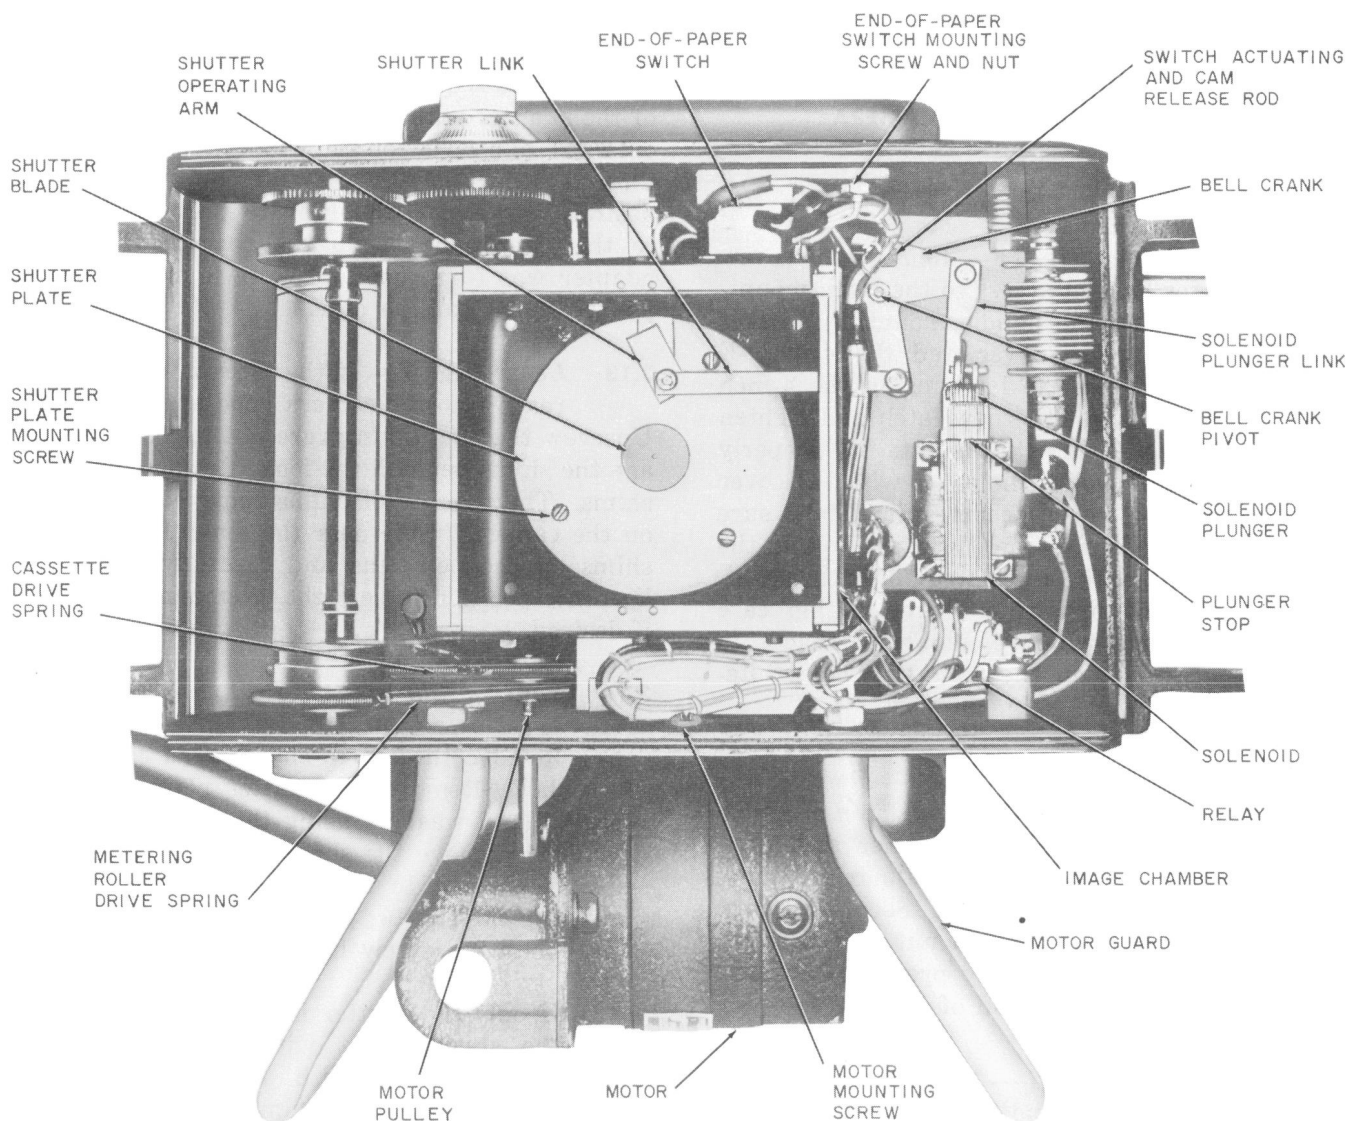

Fig. 10 — KS-14593 L2 Message Register Camera with Cover Removed
3.07 Removing and Remounting Image Chamber: Fig. 10 —
(1) To remove the image chamber, first remove the camera hood as covered in 3.06. Referring to Fig. 10, remove the retaining rings from the bell crank pivot, from the pin which connects the solenoid plunger link to the bell crank, and from the shutter operating arm pin. To remove a retaining ring, insert the blade of the R-1005 jewelers screwdriver in one of the openings in the ring. Slowly turn the screwdriver toward the center projection
3.14 Shutter and Shutter Post: Fig. 10 —